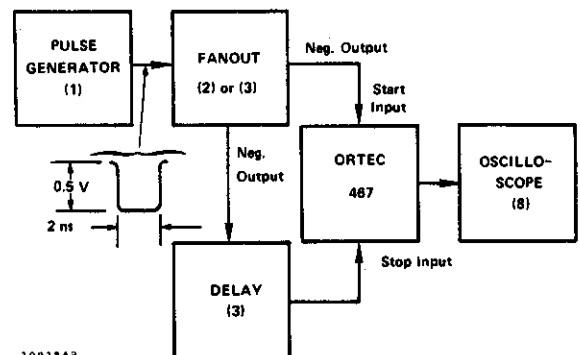

Fig. 6.1. Test System for Checking Conversion.
Conversion Tests Use the typical test setup shown in Fig. 6.1 and supply a start and stop pair of input signals with known time difference into the 467. Observe the TPHC output. Then use the following procedures:
3. Use the circuit shown in Fig. 6.1. Select a convenient time range and adjust the stop delay to obtain an output of about 5 V through the TPHC Output connector. Note that an SCA output is present.
1. Set up the pulse generator (1) for negative 250 mV, approximately 100 ns wide. Connect this output to the start input.
3. Set fanout 2 or 3 (Fig. 6.1) to trigger start; delay the 250-mV signal pulse and insert it into the stop input of the 467.
DC Level and Overage To calibrate the dc level and overrange, set up the circuit as shown in Fig. 6.1.